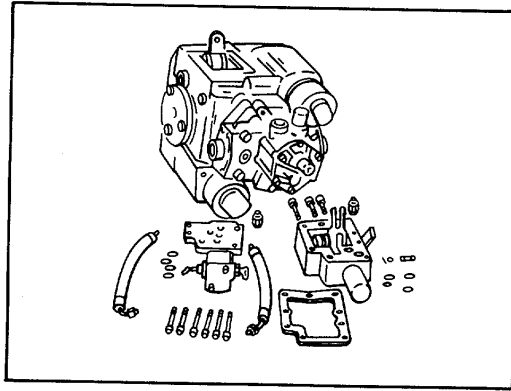

Figure 27.
5. Remove the remaining three bolts in the displacement control. Lift valve away from housing and remove cotter pin and washer (refer to Fig. 14 and Fig. 27). Remove pin from link in pump.
6. Remove orifice and O-rings from control valve (refer to Fig. 27).